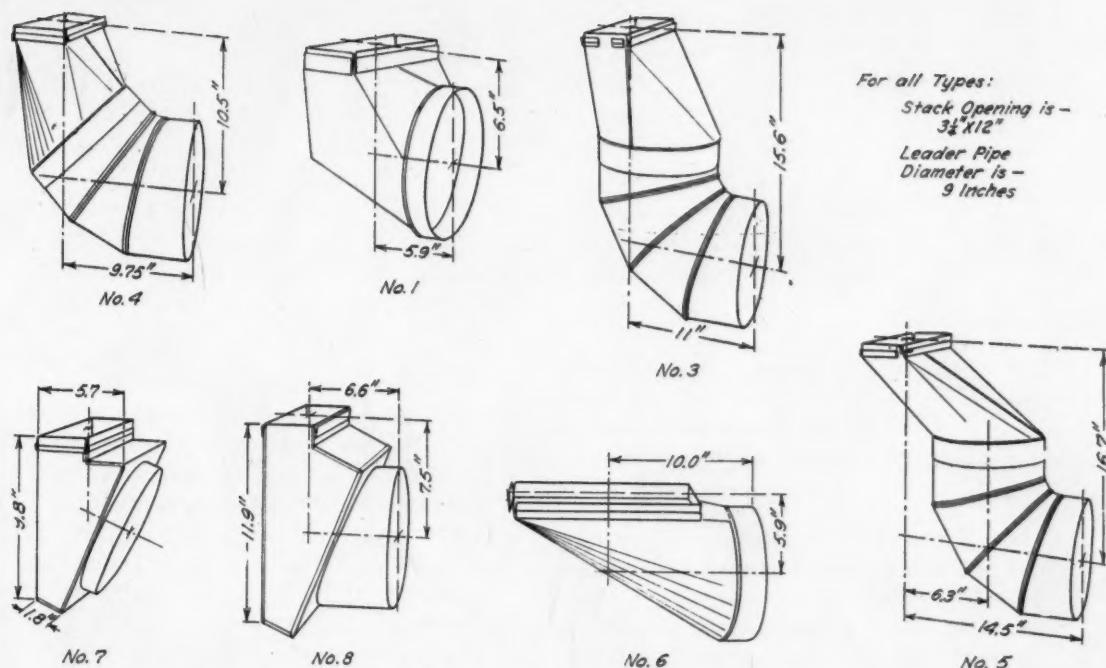

FIG. 11. TYPES OF BOOTS TESTED
3. *Description of Boots.*—Of the large number of available models and types of boots, those shown in Fig. 11 were selected as typical of those most commonly used in practice, and for convenience in reference they have been designated by number. In all cases the boot was used as the connection between a leader pipe 9 in. in diameter and a  $3\frac{1}{4}$  in. by 12 in. stack of single-wall construction.